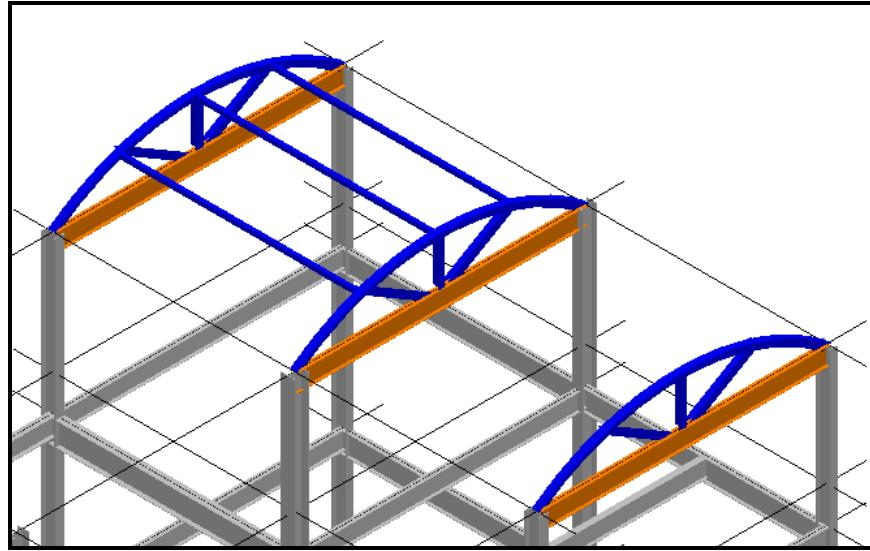

Figure 12 – ISO View of the Structure U03
26. Select Place Framing Members command. Use the view shown in Figure 12 to place the structural members.